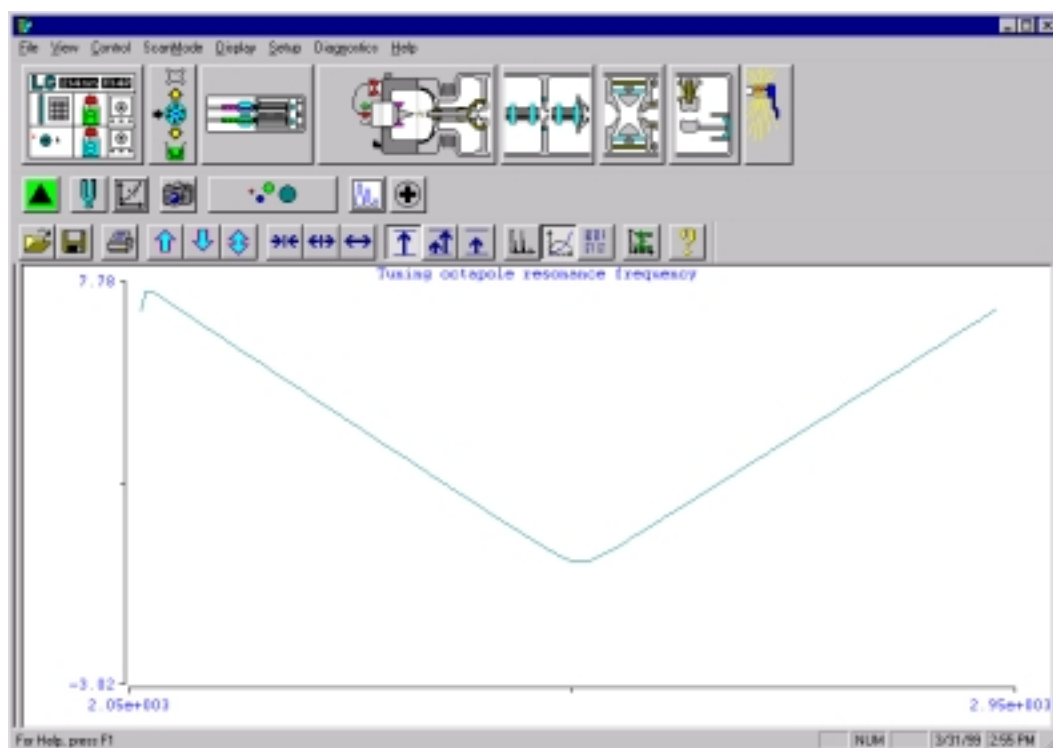

Figure 5-5. Graph view for quadrupole/octapole RF voltage tuning
- c. Start the quadrupole/octapole RF voltage tune program. A frequency function appears in the Graph view. See Figure 5-5. The minimum of the frequency function should lie between 2400 and 2550 kHz.